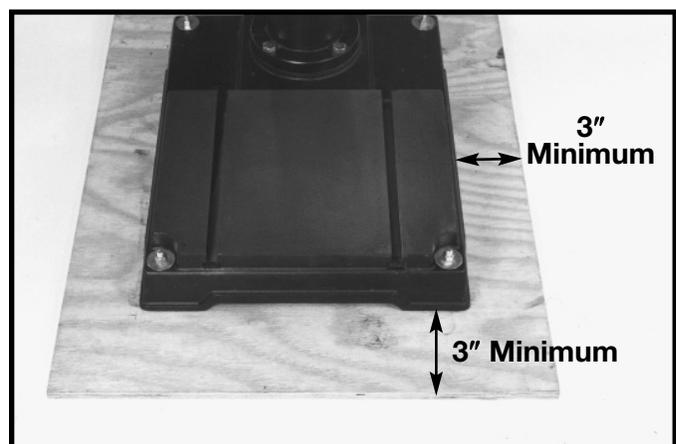

Fig. 18
3. Place the drill base, as shown in Fig. 18, centered on the supporting surface.
⚠ WARNING WHEN THE DRILL PRESS IS MOUNTED TO THE SUPPORTING BOARD, THE BOARD MUST EXTEND A MINIMUM OF 3" BEYOND EACH EDGE OF THE DRILL PRESS BASE, AS SHOWN IN FIG. 18.